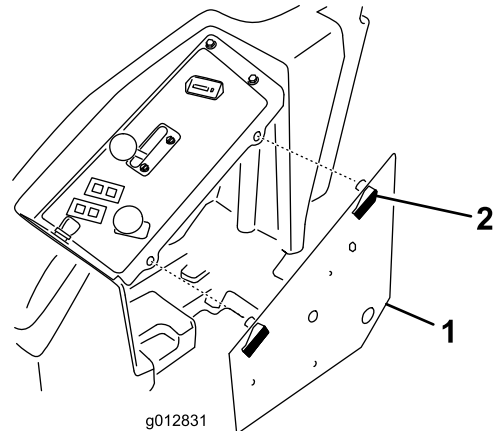

Figure 22
- Unlatch the control-panel cover and move it aside (Figure 22).
6. Unlatch the control-panel cover and move it aside (Figure 22).